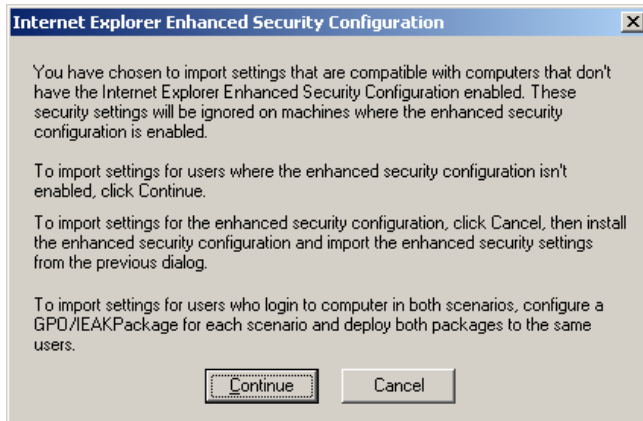

Figure 8. Internet Explorer Enhanced Security Configuration Dialog
dialog shown in Figure 8.
5. Select **Import the current security zones and privacy settings** in the Security Zones and Privacy frame. Since Internet Explorer Enhanced Security was disabled under Disable Internet Explorer Enhanced Security Configuration for Windows Server 2003 Using Internet Explorer 7.0 on page 62, making this selection will open the Internet Explorer Enhanced Security Configuration dialog shown in Figure 8.